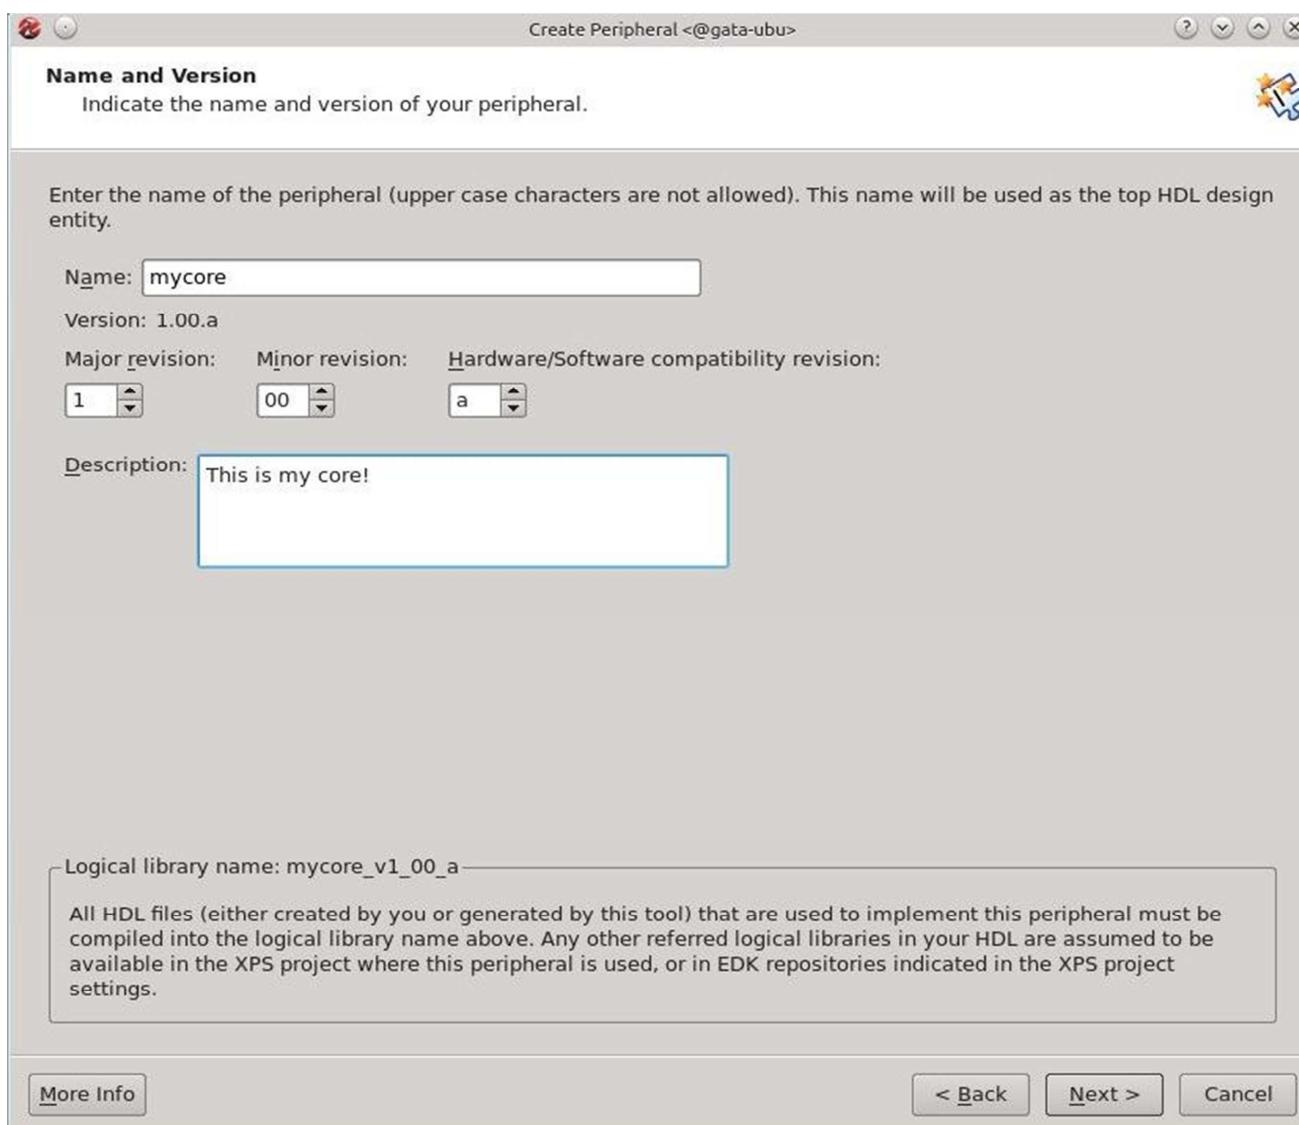

Figure 5: Create and Import Peripheral Wizard (Step 4)
**Step 4:** In the window shown in **Figure 5** you are required to enter the peripheral name and revision. The wizard allows you to create different revisions of the same core as well as starting from scratch. Note that the core name should consist only of lower case letters and numbers. In this screen you can also add some description to your core. Give your new IP core any name, for example “**mycore**”. Type the name and give description if required then press “**Next**” to continue.